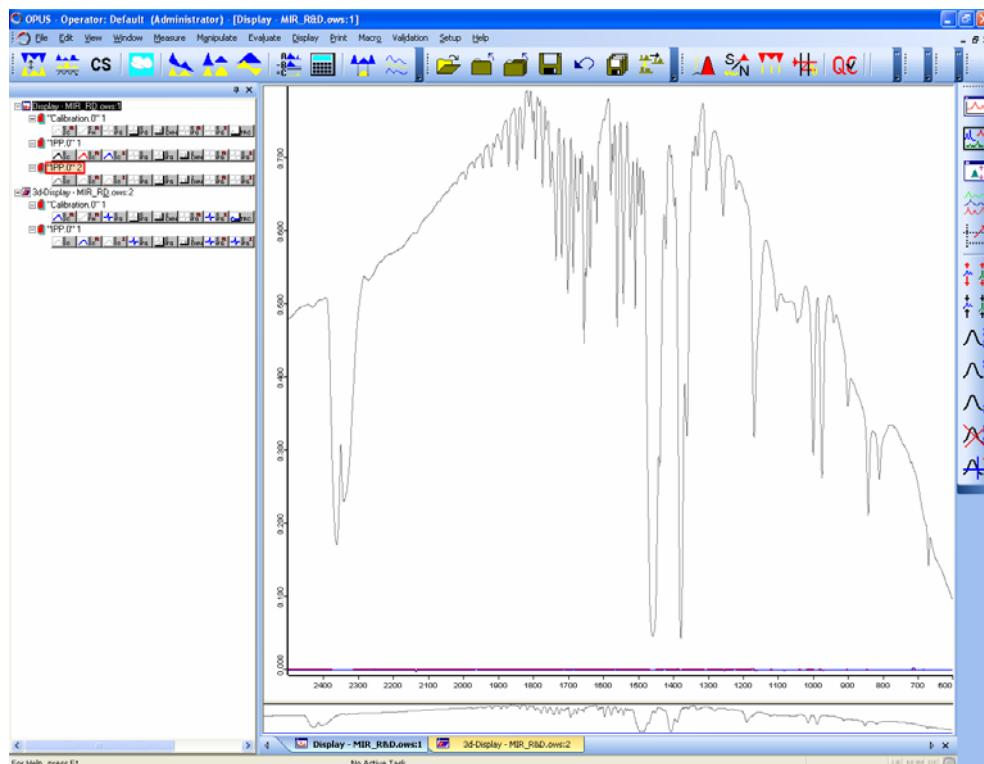

Fig. 29: Copying the entire sample measurement file with the “Copy Entry” function
- Click in the OPUS browser with the right mouse button on the file resulting from the sample measurement and copy the original file. (See figure 29).